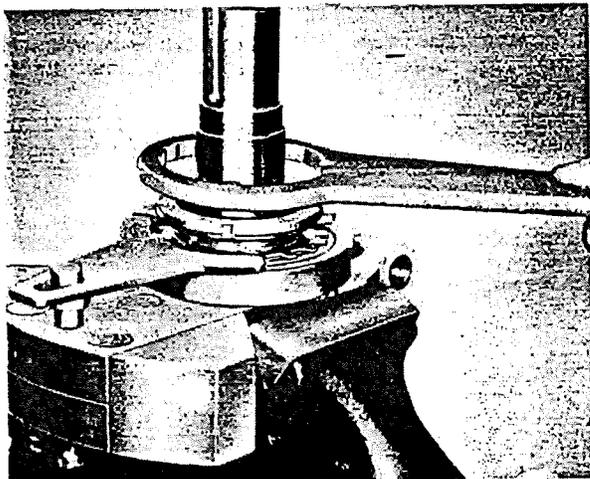
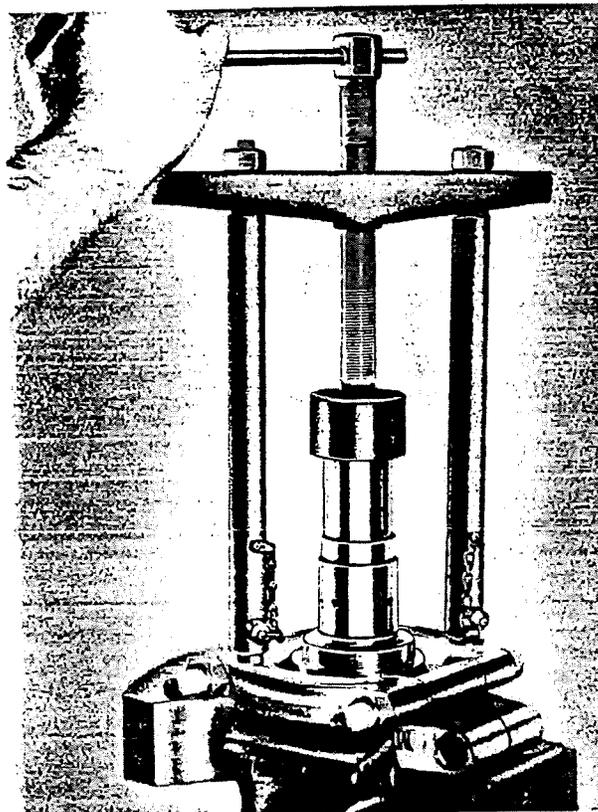

Figure 14 - Removing Rear Bearing Lock-Nut
Figure 15 - Removing Rear Bearing Inner Race
m. Rear Crankshaft.- (1) Turn engine stand until crankshaft is in the horizontal position. Lock stand in this position.
(2) Remove rear half of the crankshaft, together with the rear main bearing.
(3) Place rear half of crankshaft in a vise having protected jaws. Bend tabs back on rear bearing lock washer so that lock-nut may be removed.
(4) Remove lock-nut with Wrench (Tool No. T-359). Refer to Figure 14.
(5) Remove outer race and rollers of rear main roller bearing, taking care to avoid dropping. Do not mix rear bearing parts with front bearing parts.
(6) Main bearing inner races can be removed if necessary with Puller (Tool No. T-6029). Refer to Figure 15. Puller must be placed on crankshaft as shown in illustration. Be certain to tag races to distinguish front from rear.
(7) All recently manufactured main roller bearings are serially numbered on inner and outer races to avoid mixing, but the rollers should be kept separate.